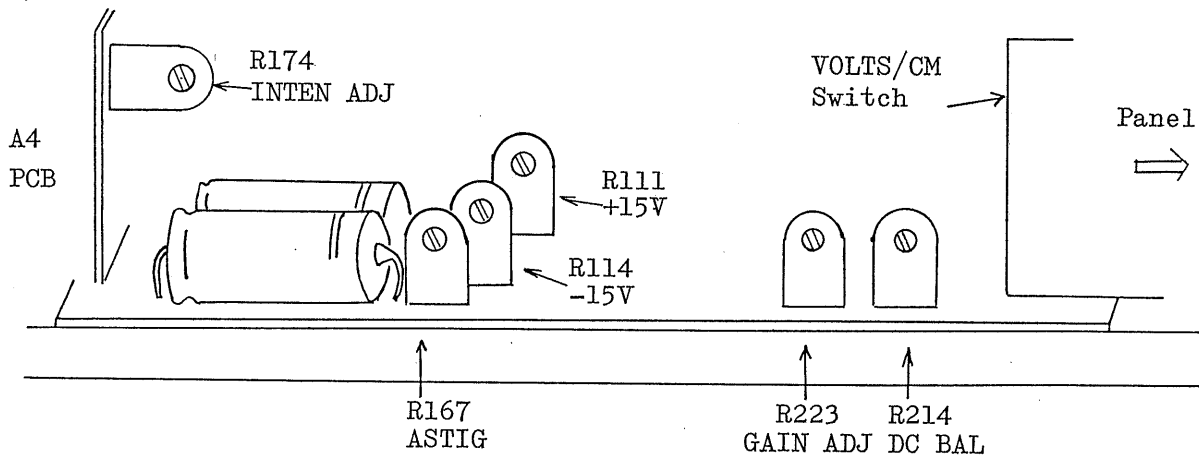

Fig. 5-4
During adjustment, first, turn R114 shown in Fig. 5-4 with a screwdriver until -15V is obtained.
INTEN ADJ is a semi-fixed resistor for adjusting a variable range of INTENSITY (R174 in Fig. 5-4).
- (1) Set VOLTS/CM to 0.01V.
- (2) Set VARIABLE to CAL'D
- (3) Apply a square wave of 1 kHz and 50mVp-p (Properly calibrated CALIBRATOR may be used.) to the vertical input terminal.
- (4) Adjust R22³ (Fig. 5-4) until vertical amplitude is 5 cm.